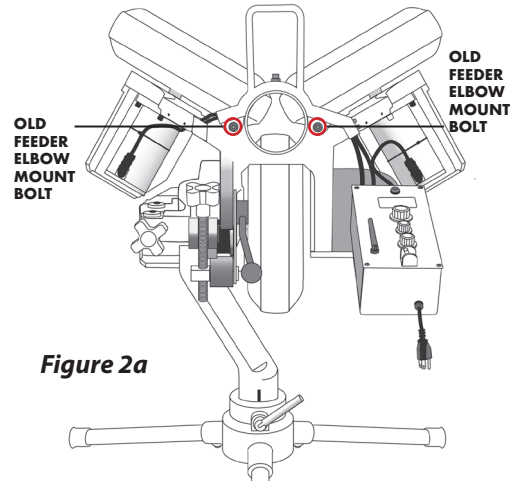
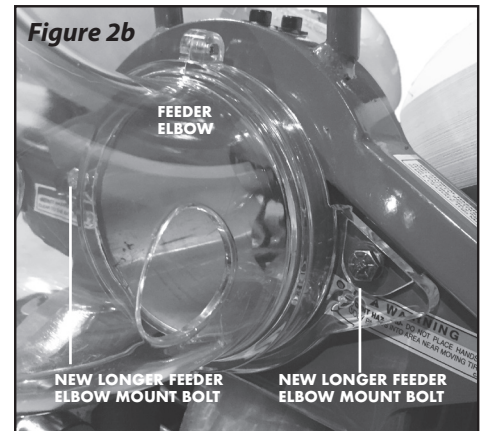

Figure 2a
Figure 2b
Remove both old Feeder Elbow Mount Bolts (2) from the BP3, (Figure 2a.) Attach BP3 Softball Feeder Elbow (Figure 2b) using the Longer Feeder Elbow Mount Bolts provided and tighten.